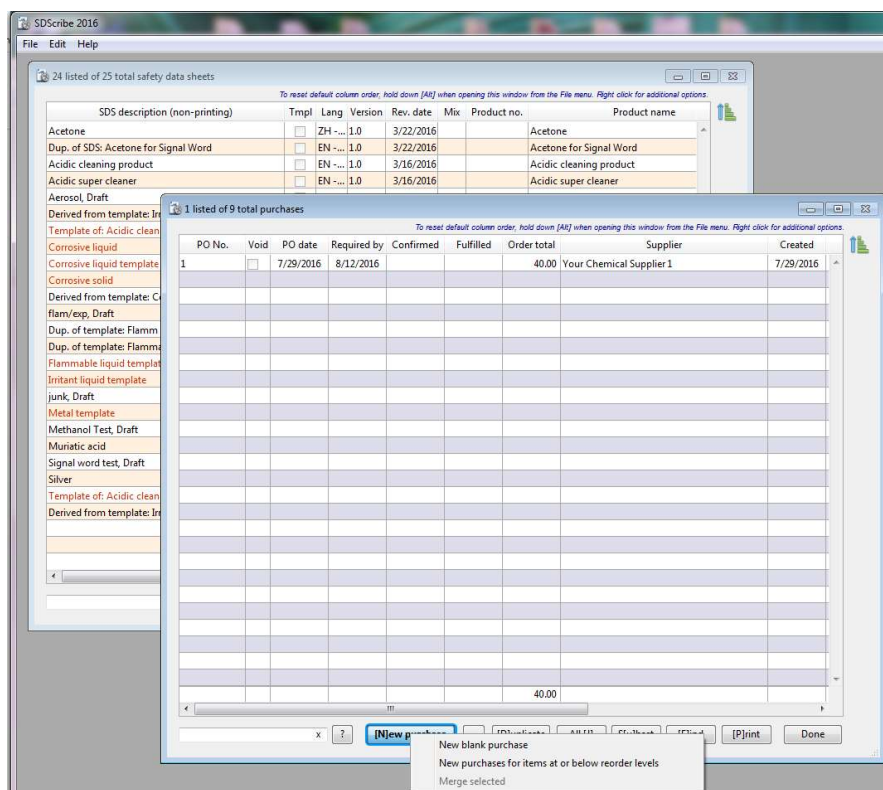

Fig. 1. Creating a new purchase from the Purchases browse list.
1. Create **individual, blank purchase records**. Click on the **[N]ew purchase** button on the Purchases browse list (Fig. 1), and select **New blank purchase**. From the data entry form, enter the ingredients and/or parts that you require in the item list.